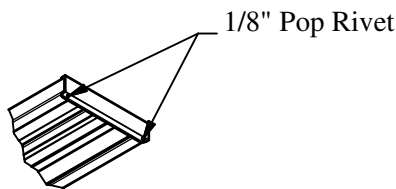

Figure 3
3. Install the end caps on each end of the seat planks, foot planks, and riser planks. Slide the end cap onto the plank with the holes on the underside of the plank. Using the holes in the end cap for a guide, drill a 1/8" hole and install the pop rivets to retain the end caps. See Figure 3.